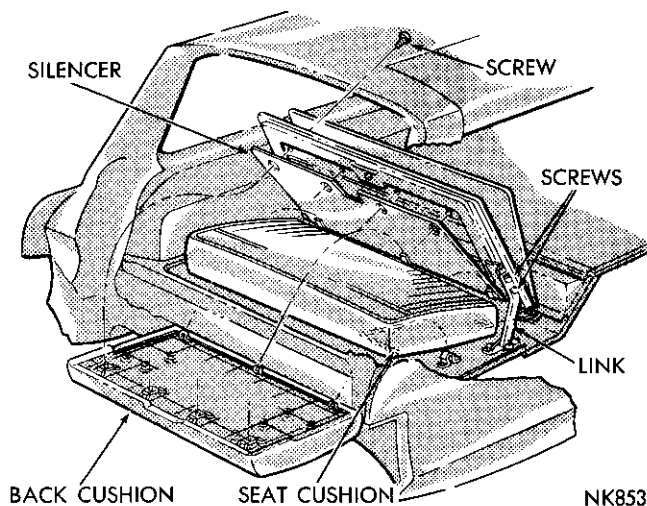
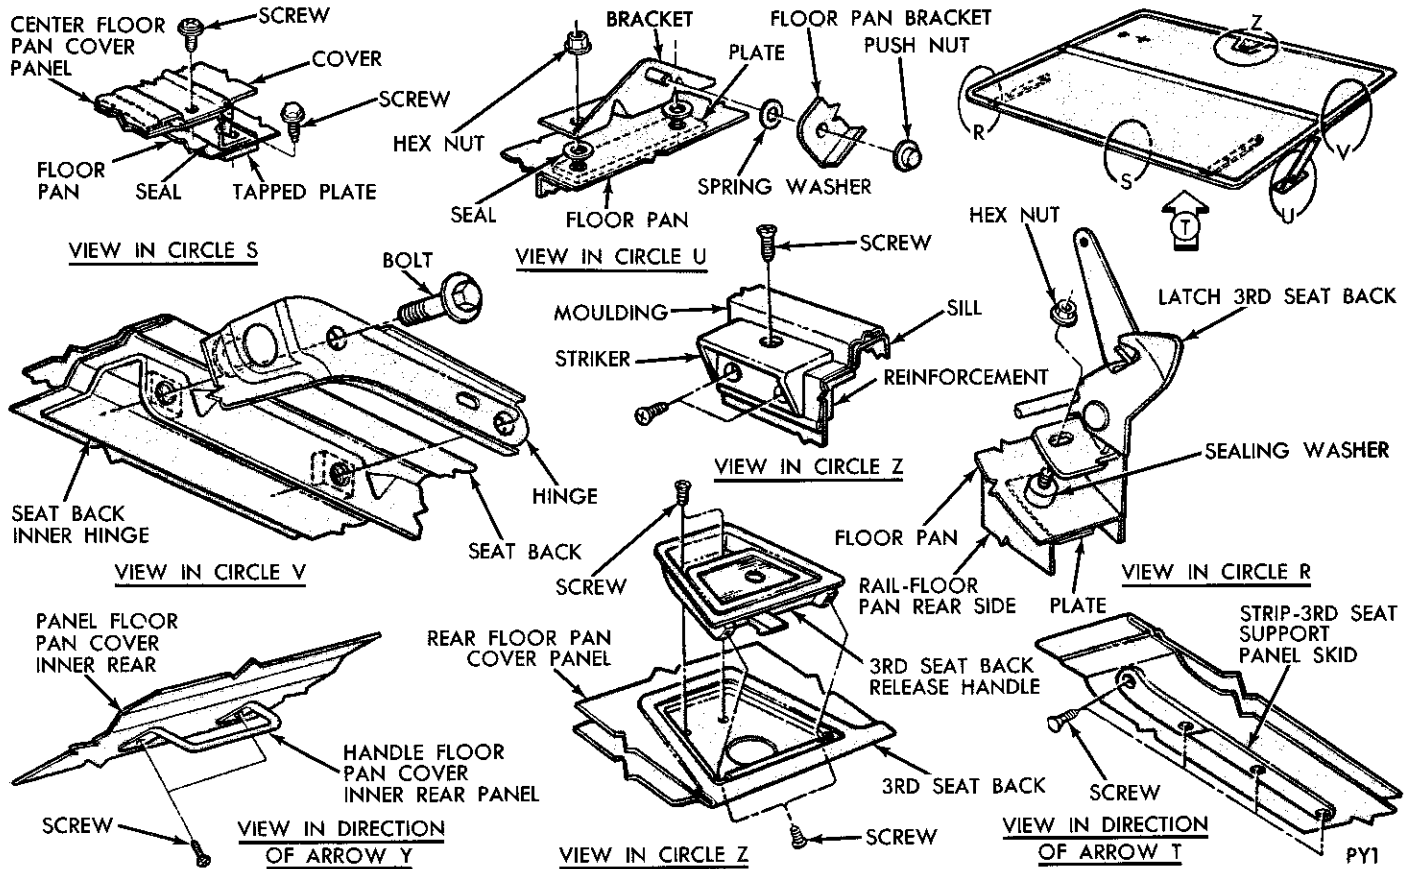

Fig. 18—Third Seat Back and Cushion
Fig. 19—Third Seat Back and Cover
(1) With seat back in the UP position (Fig. 18), remove screws from seat hinge links.
(2) Remove back and support panel assembly.
(3) The cushion is retained to the seat back panel (Fig. 19) with screws.
(1) The third seat cushion (Fig. 18) is attached to hinges, which in turn are attached to the quarter panels by screws.
(2) Remove hinge to quarter panel screws and remove cushion assembly.
Refer to Figure 19 for the attaching points and method of attachment for the third seat back and cover panel assembly.